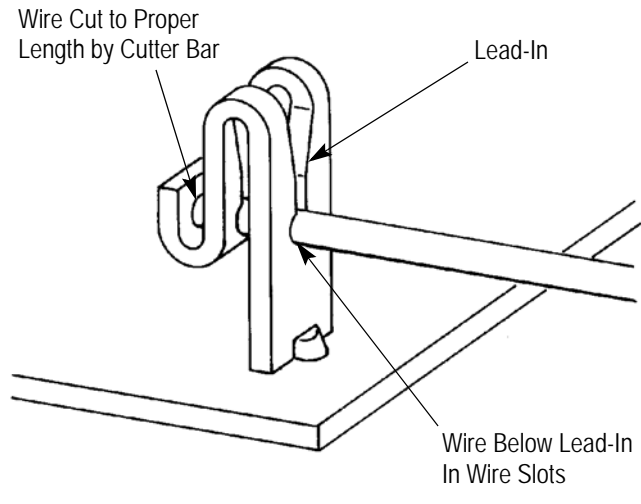

Figure 3
5. Repeat Step 4 until the wire is below the lead-in of both wire slots, as shown in Figure 3. The wire should be properly seated after two impacts of the tool. If more are required, check the wire after each impact of the tool.